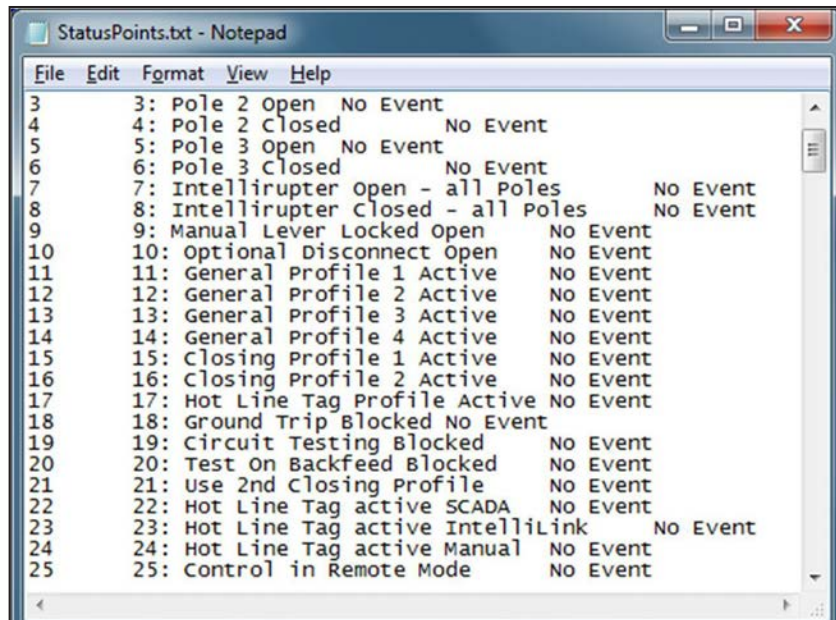

Figure 106. Status points converted to a text file with table options.
- STEP 4.** Click on the **Copy selected items** option. The table contents are converted to a text file. See Figure 106.